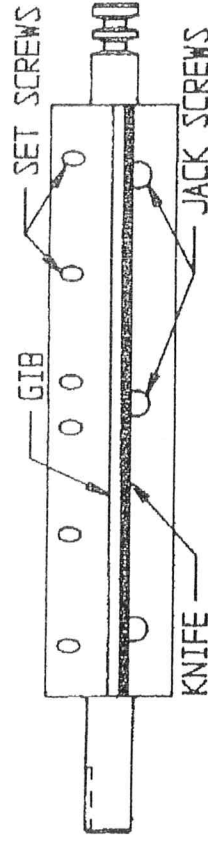

Fig. A-6
4. Lay the gib in the slot with the dimples for the set screws away from the blade and jack screws (see fig. A-6).